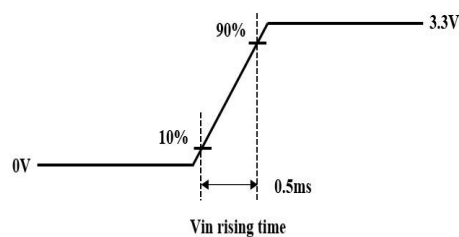

Figure 4 Inrush Measure Condition
- Measure condition (Figure 4)